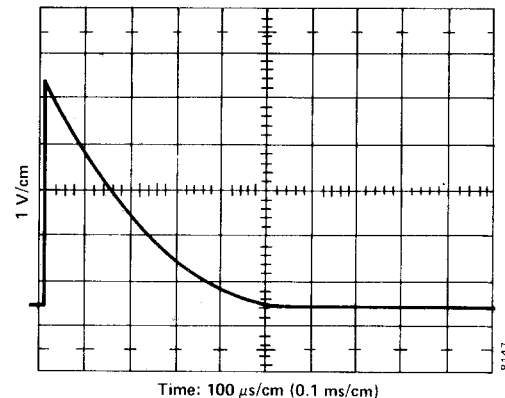

Fig. 1.4. Typical Pulse Generator Output.
4. Trigger the oscilloscope by adjusting the Triggering-Level control. If the trace will not trigger, recheck the settings of the parameters in Table 1.1. When the oscilloscope is operating properly, the output should appear approximately as that shown in Fig. 1.4. Note that in Fig. 1.4 the maximum pulse amplitude appears at the beginning and is  $\sim 5$  V.